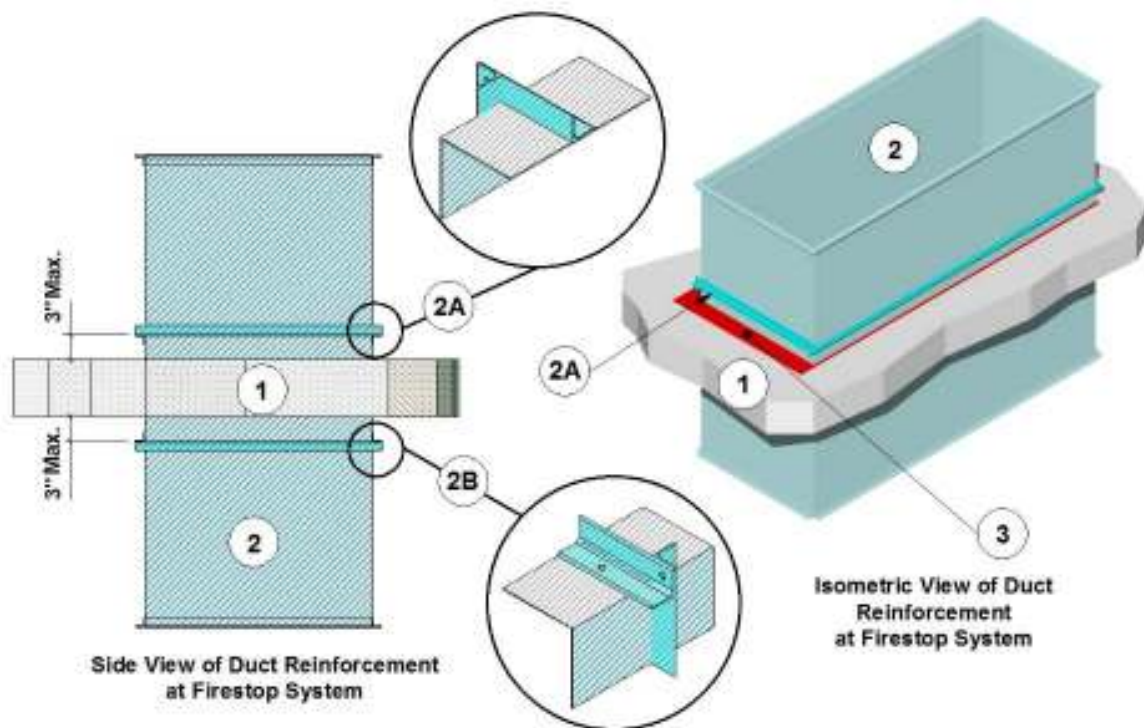

Figure 2 – Vertical Ventilation Duct Reinforcement
Refer to Figure 2. Affix min. 1 in. x 1 in. x 1/8 in. RSA additional perimeter steel reinforcement (Item 2A and Item 2B) 3 in. from both sides of the floor/ceiling assembly (item 1) secured using with 2 x 1/4 in. hex head bolts, nuts, and washers, 12 in. on center (oc) positioned with nuts and washers installed from the inside of the duct after the fill, void, or cavity material has reached a “skinned-over” condition. Alternatively the